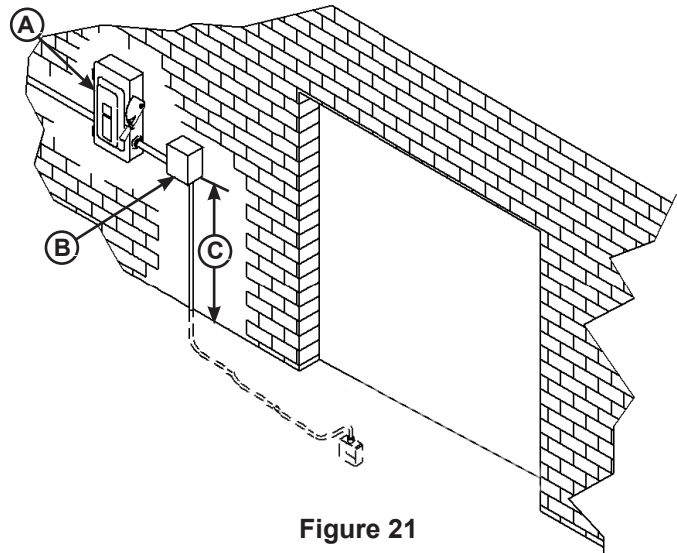

Figure 21
1. Mount the push-button control panel (B) so bottom of control panel-to-dock floor distance (C) is 48 in. (1219 mm). See Figure 21.
2. Install electrical disconnect panel (A) if not already installed. Disconnect panel supplied by others.